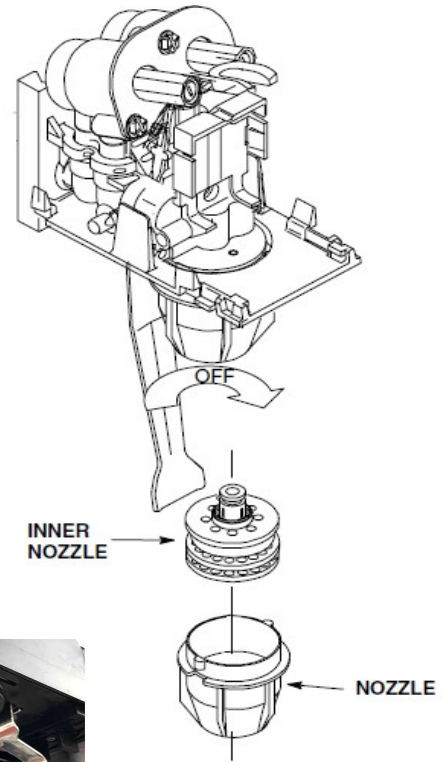

Figure 1.
4. Spray the sanitizing solution upwards into the underside of valve as shown in Figure 1, ensuring that all surfaces are saturated. Clean the region using the valve brush. (Do not use a wire brush)